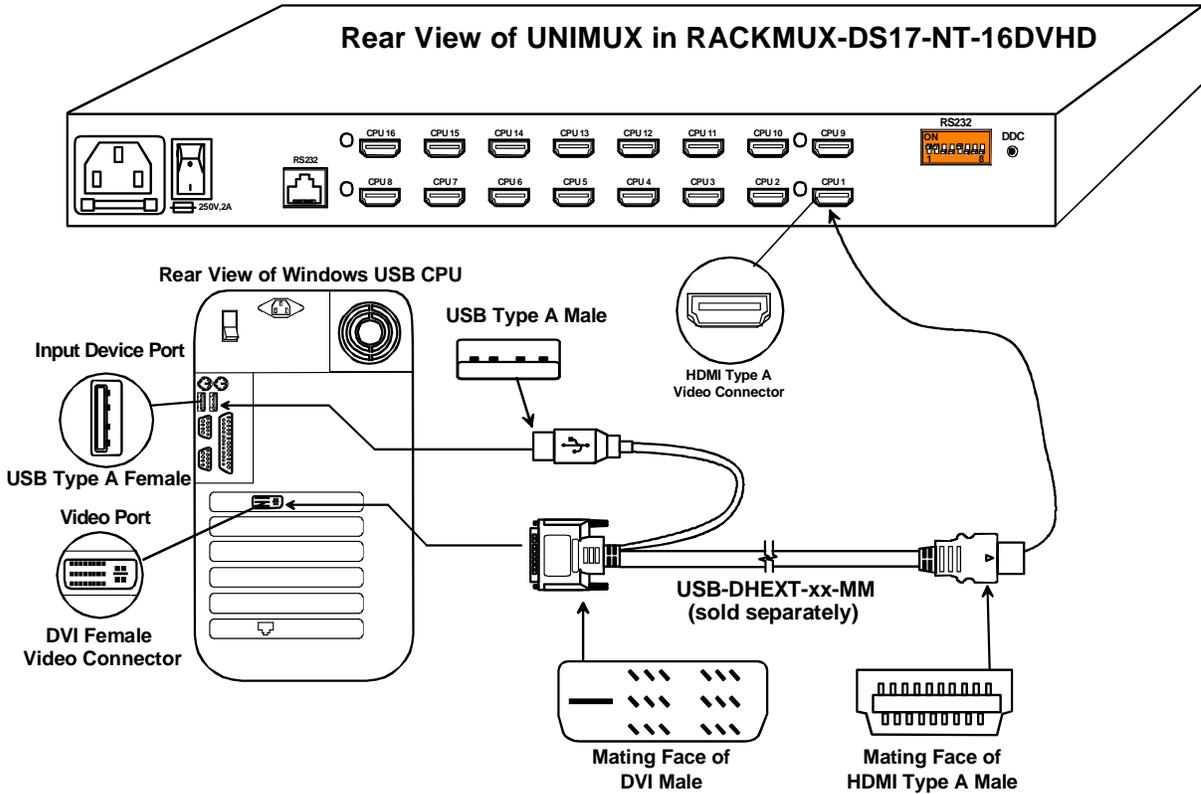

Figure 10- Connect each CPU
1. Connect each CPU to the UNIMUX switch using a USB-DHEXT-xx-MM (Required-not supplied) as shown in Figure 10.